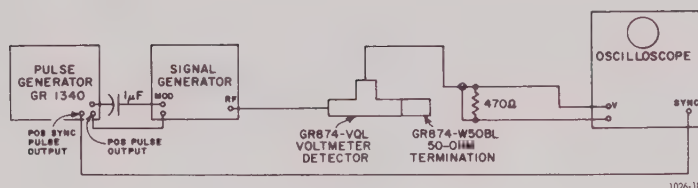

Figure 5-4. Test-equipment interconnection for pulse modulation checks.
- Connect test equipment as shown in Figure 5-4. Set the 1026 controls as follows: